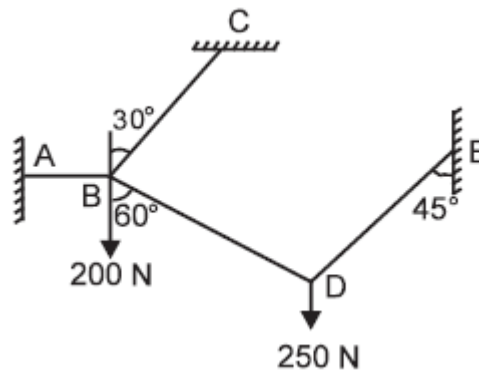

Fig. 3
5. A system of connected flexible cable shown in Fig.3 is supporting two vertical forces 200 N and 250 N at points B and D. Determine the forces in various segments of the cable. [L4] [12 M]